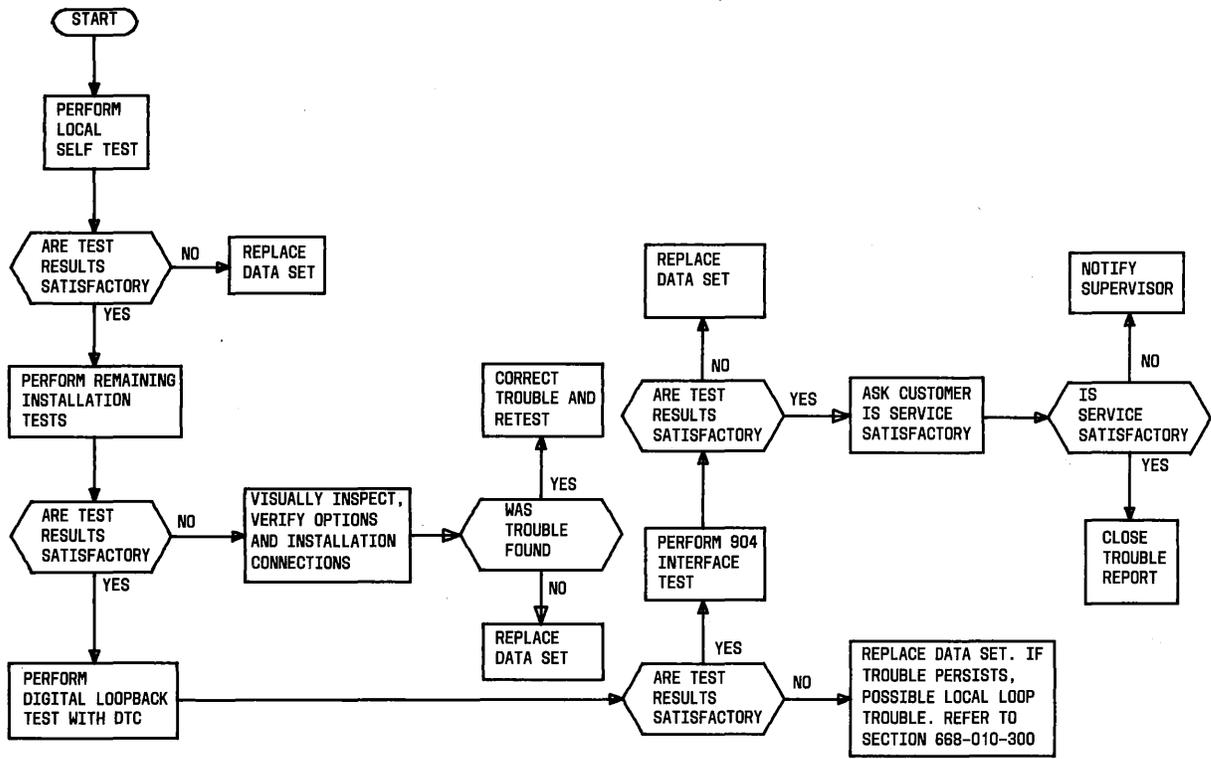

Fig. 7—Station Test Sequence—DS 103J
- (1) Upon arrival at the customer location, the telco employee should make a quick visual inspection of the data set. Verify that power is applied. Check also for other possible causes of trouble, such as cable and connector defects.
- (2) If this initial check does not reveal a trouble condition, proceed as indicated in Fig. 7.